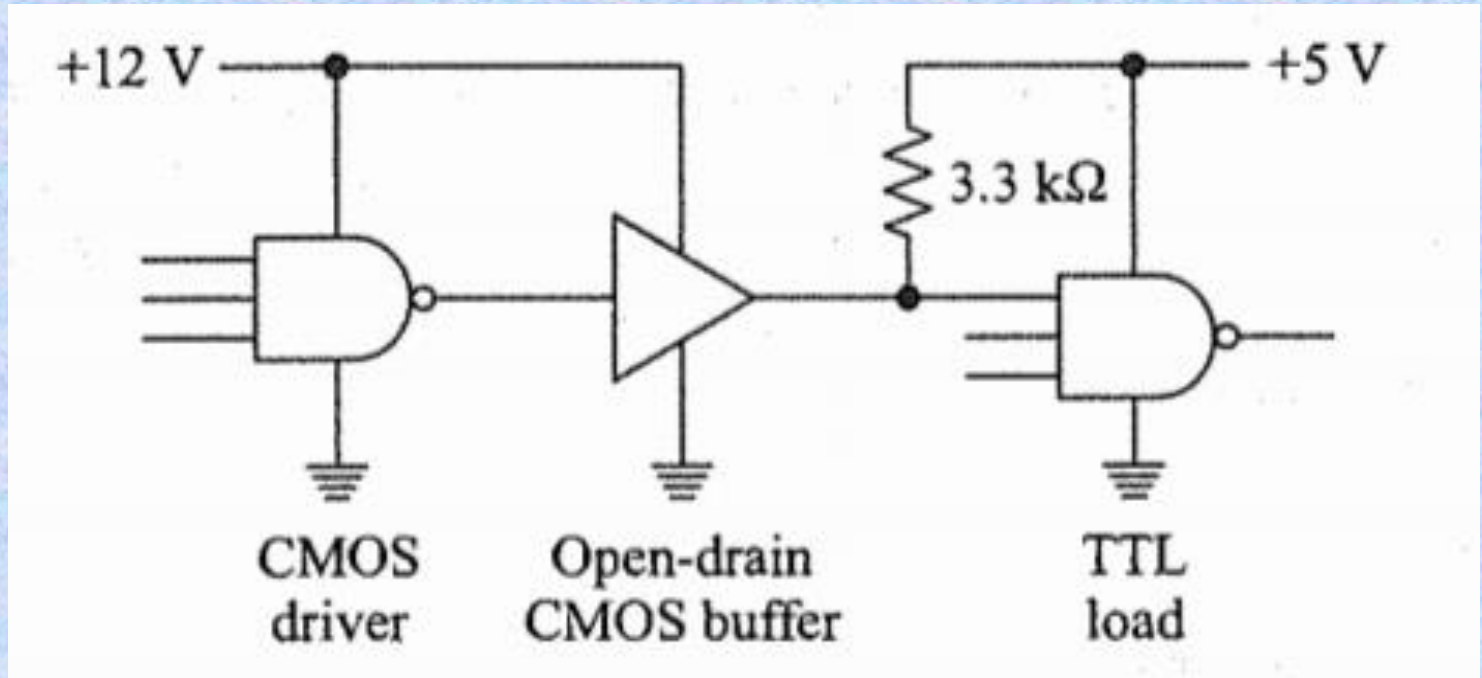

Fig. 1.41 Open-drain CMOS buffer increases sink current
- Figure 1.41 shows how an open-drain CMOS buffer can be used as an interface between a CMOS driver and a TTL load. The supply voltage for most of the buffer is +12 V. The open drain, however, is connected to a supply voltage of +5 V through a pull-up resistance of 3.3 k Ω . This has the advantage that both the CMOS driver and the CMOS buffer run off of +12 V, except for the open-drain output which provides the TTL interface.